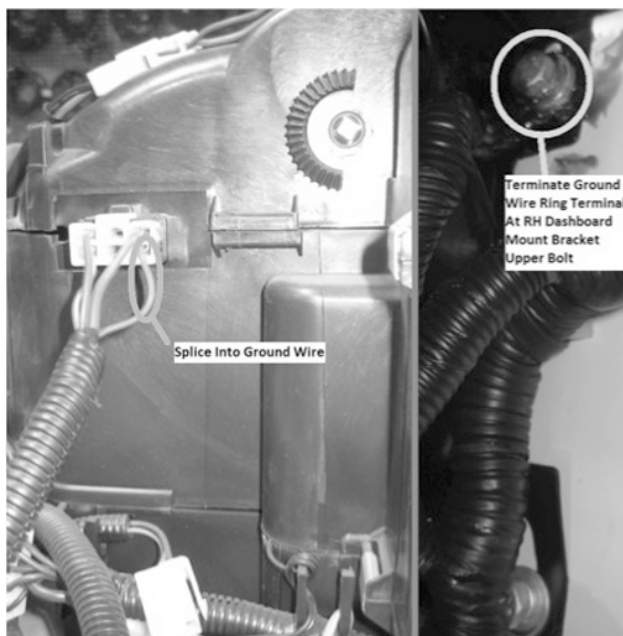

Figure 13-1
1. Splice the new ground wire (A6000100-001) to fan speed control module's lower RH purple wire using a soldering iron (smaller purple wire on RH side of the HVAC housing) (see *Figure 13-1*).
2. The ring terminal on the ground wire must terminate at the RH dashboard mount bracket at the upper mount bolt (see *Figure 13-1*).